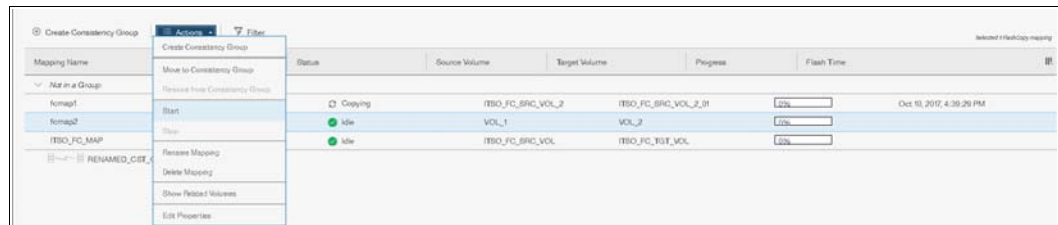

Figure 10-68 Start the FlashCopy process action
3. Click **Actions** → **Start** (as shown in Figure 10-68) to start the FlashCopy process.